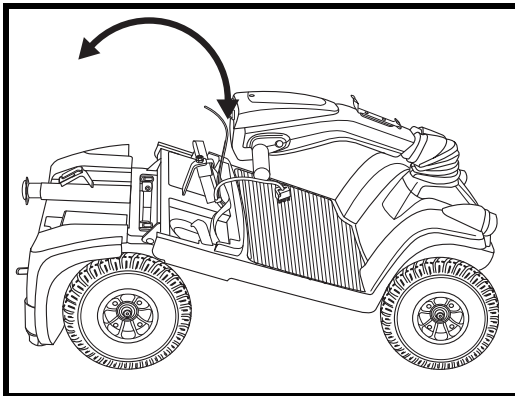

Figure 16. Frame Positioning
2. Push back on the seat post to pivot the scooter's rear section rearwards until the rear section is standing vertically on its bumper. See figure 16.
3. Holding the seat post, slowly pivot the rear section forward until the curved locking brackets are fully connected onto the top rear pegs. See figure 16.